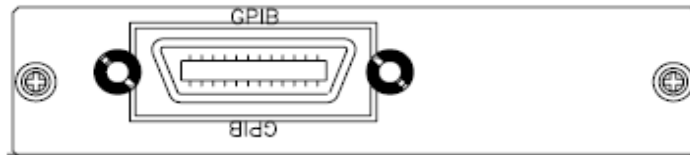

Fig 2-5 3300G REAR PANEL
- Please make sure the lock screws are firmly hand-tightened, use a screwdriver Only for the removal of screws. Fig 2-5 shows the rear Panel of 3300G Mainframe, The GPIB address of the 3300G mainframe is set on front Panel.